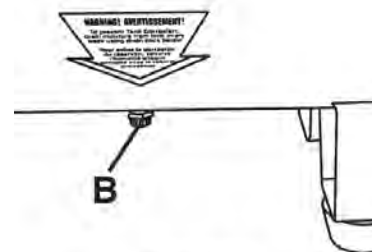

FIGURE 4
DRAIN VALVE (A) FIG.4
- C. Turn the drain valve (B) Fig. 4 clockwise, opening it fully, to prevent air pressure build-up in the tank.
10. Drain water from air tank. Turn drain valve (B) Fig. 4, clockwise to open.
5. Drain water from air tank. Turn drain valve (B) Fig. 4, clockwise, to open.